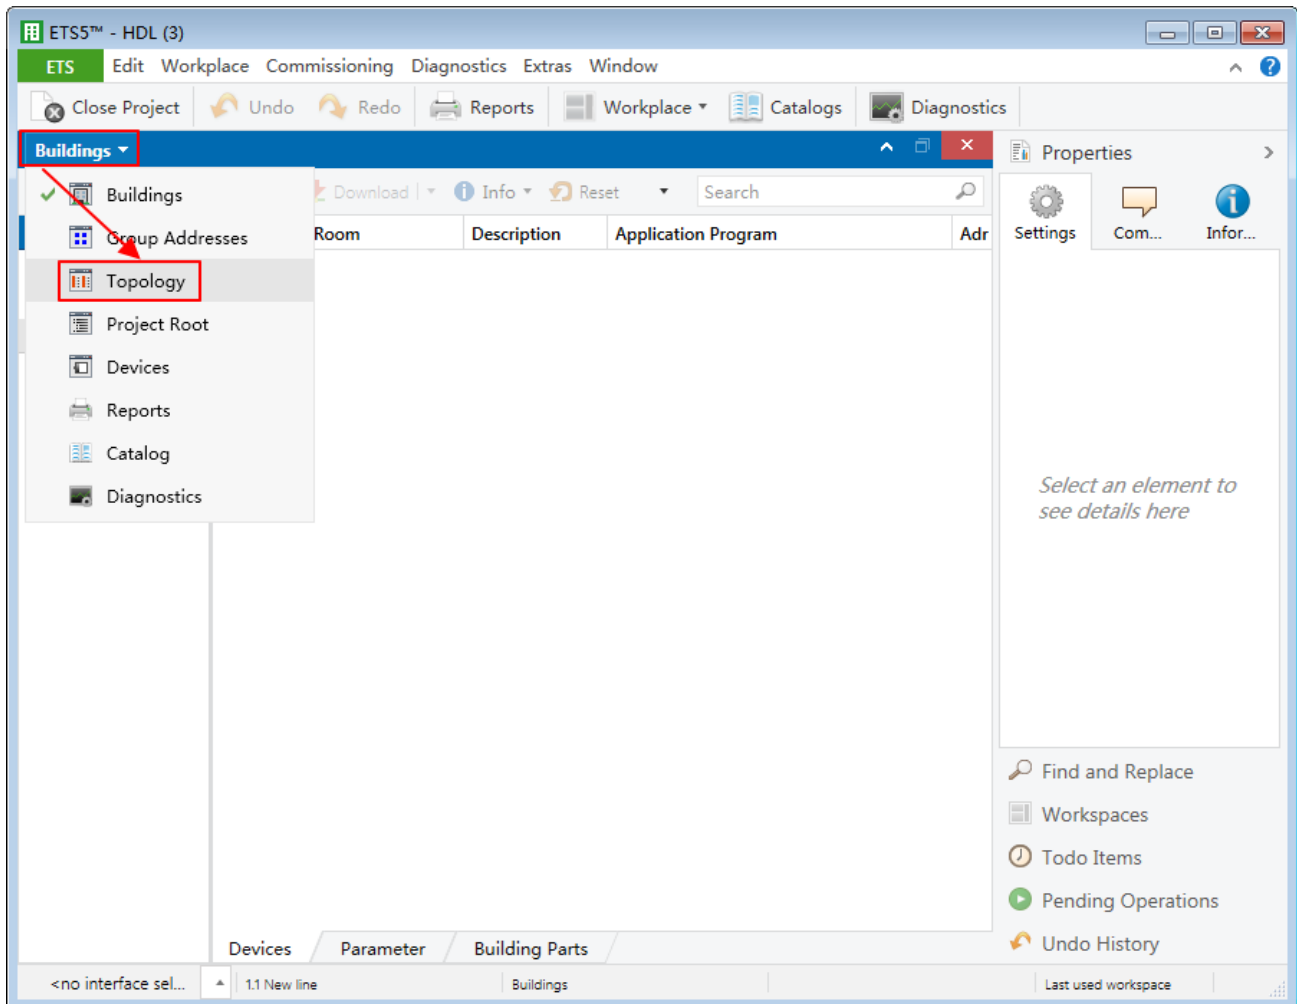

Figure 1-3 Select topology
- ① After creating a project, the project page will show up by default. Click “Buildings” and select “Topology”, as shown in Figure 1-3.